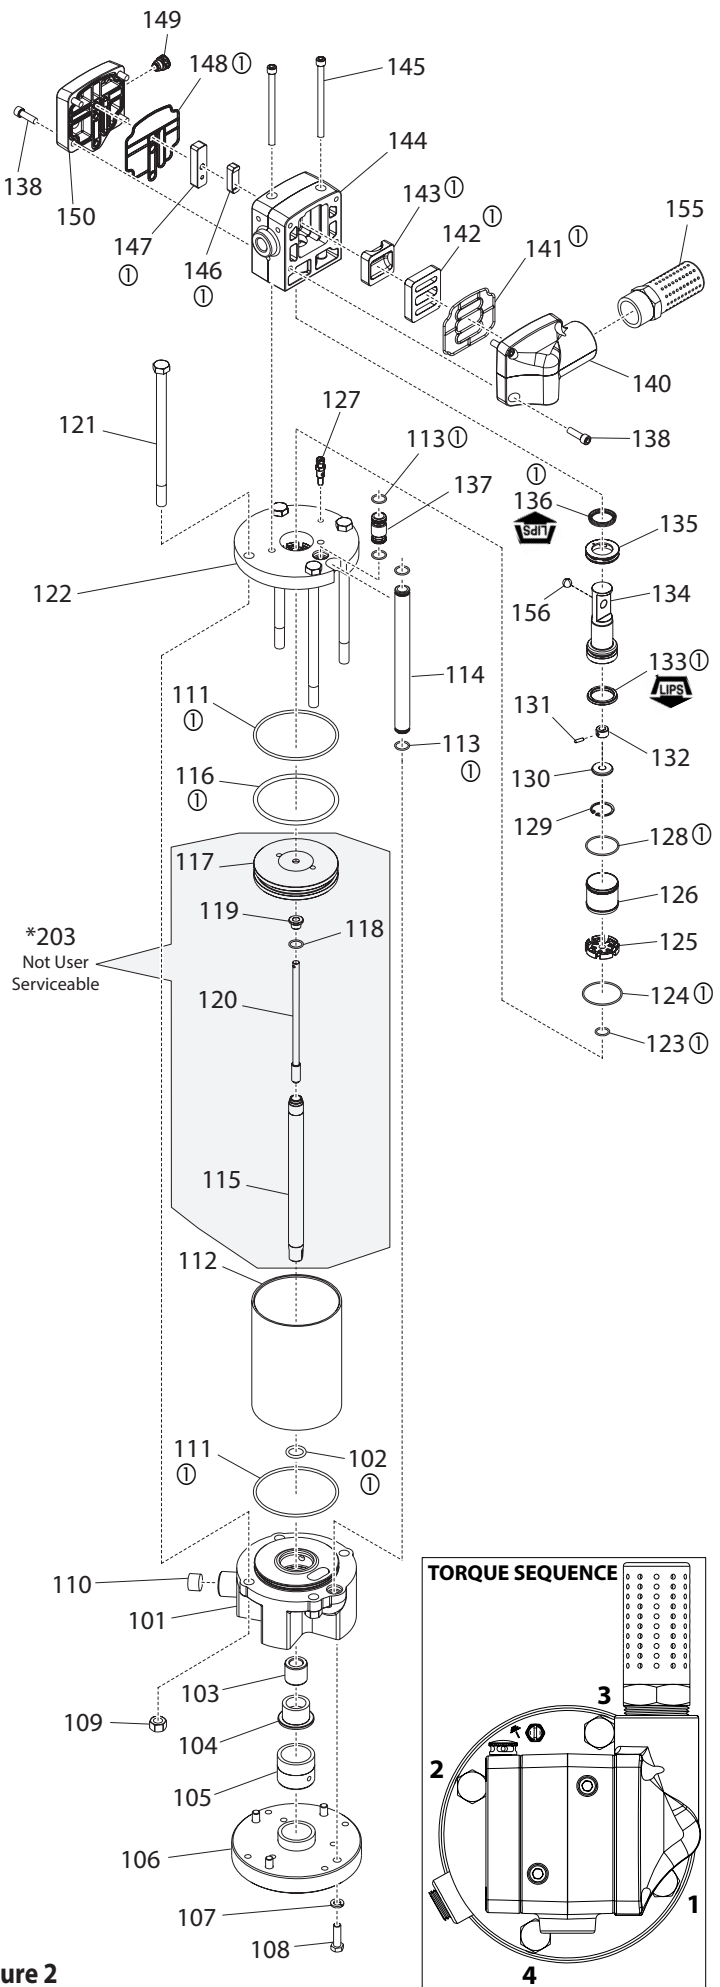

Figure 2
- For model AF0460-XX, install (151) washer, (152) U-cup, (153) washer, and (154) snap ring into the (101) base assembly. For all other models, install the (102) O-ring into the (101) base assembly.
- Install the (111) O-ring in the groove on the (101) base assembly.
- Install the (116) O-ring in the groove on the (117) piston.
- Push (115) piston rod thru the (101) base assembly, being careful not to damage the lips of the (152) U-cup or the (102) O-ring.
- Lubricate the inside diameter of the (112) air cylinder and slide it down over the (203) piston assembly and onto the (101) air motor base assembly. (See Figure 2 on page 2).
- Align notch in (122) head plate with the port in (101) base assembly and press the (122) head plate down until it is seated against the (112) air cylinder. The (120) trip rod assembly must lead thru the center of the (122) head plate.
- Assemble the four (121) bolts thru the (122) head plate and the (101) base assembly.
- Assemble the four (109) nuts to (121) hex head bolts and tighten per specified torque sequence and value.
- Pull the (120) trip rod assembly as far out of the air motor assembly as possible, slide the (123) O-ring over the (120) trip rod assembly and down into the gland found in the (122) head plate.
- Slide the (125) cap over the (120) trip rod assembly and down into the bore found in the (122) head plate.
- Slide the (129) snap ring first and the (130) washer secondly, onto the (120) trip rod assembly.
- Slide the (132) driver onto the (120) trip rod assembly. Align the hole of the (132) driver with the hole in the (120) trip rod assembly and insert the (131) pin.
- Assemble the (133) U-cup and (156) rubber ball to the (134) spool. Take note of the (133) U-cup lips should point down towards the (122) head plate.
- Slide the (134) spool onto the (120) trip rod assembly over the (132) driver and insert the (130) washer behind it. Utilizing snap ring pliers, assemble the (129) snap ring to the internal groove found in the (134) spool. Be certain that the (129) snap ring is fully engaged into the groove. Slide the (134) spool downward into the bore of the (122) head plate nesting on top of the (125) cap.
- Lubricate the inside diameter of the (126) sleeve and slide it onto the (134) spool and locating it into the (125) cap. Take note that large taper on (126) Sleeve is to locate into (125) Cap.